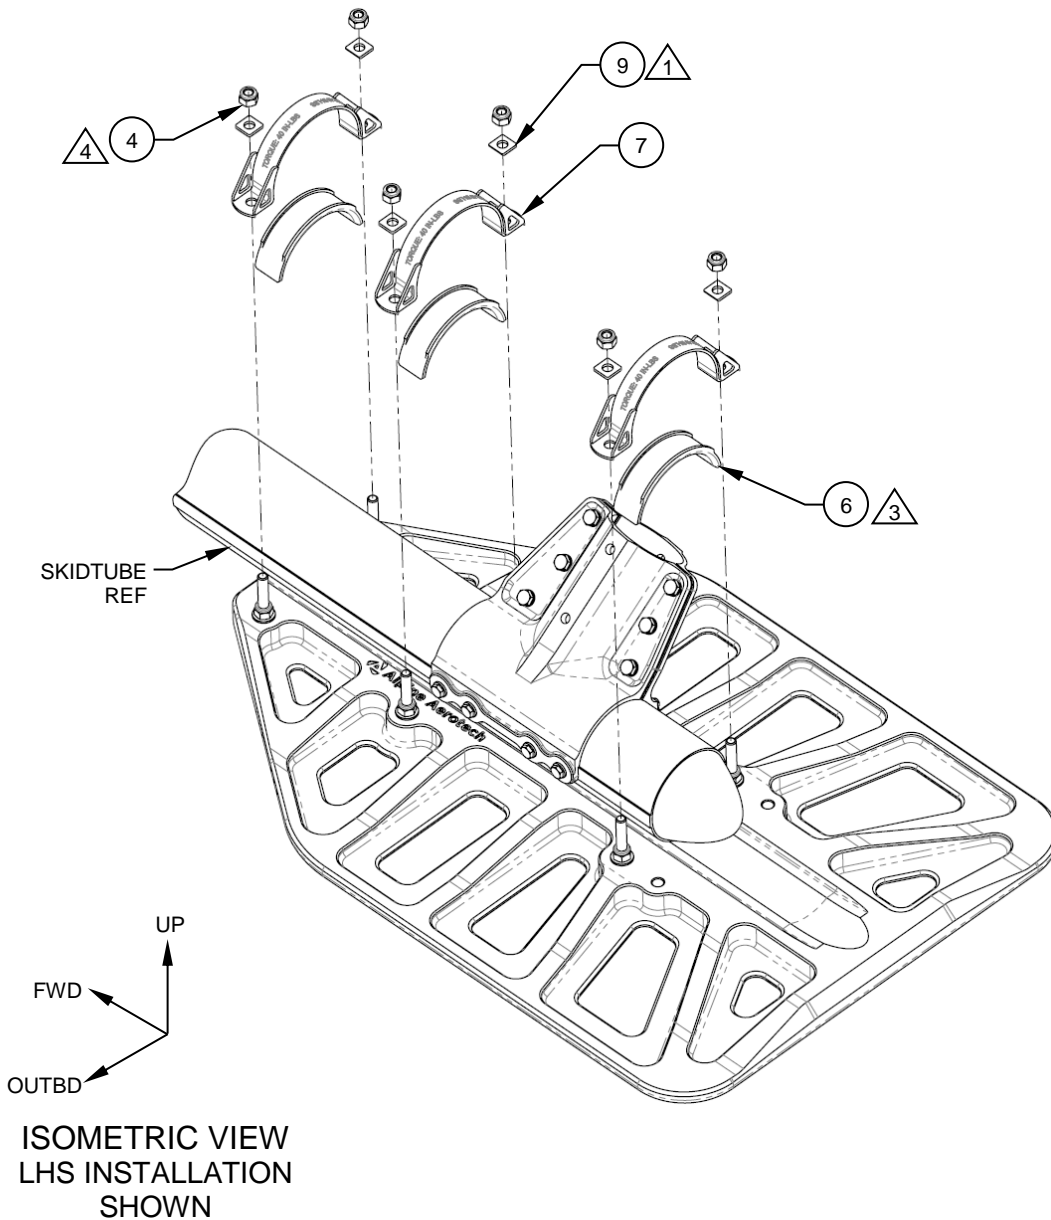

Figure 6
2. Place Cap, Details (Item 6) into Strap, Assys (Item 7) center the cap to the strap. Reference Figures 6 & 7.
4. Once the Bear Paw, Detail (Item 1) is under the skid tube in its approximate location, place the Strap, Assy's (Item 7) Cap, Details (Item 6) and associated hardware (Items 4 & 9) on their corresponding studs and capture the stud with its respective self-locking nut (Item 4) and washer (Item 9). Reference Figures 6 & 7.
5. Lower the aircraft onto the Bear Paw, Detail (Item 1) and torque fasteners equally to 40 in-lbs. (plus tare torque). Ensure that the relieved edge of the Washer, Radius (Item 9) is oriented towards the skid tube. Reference Figures 6 & 7.